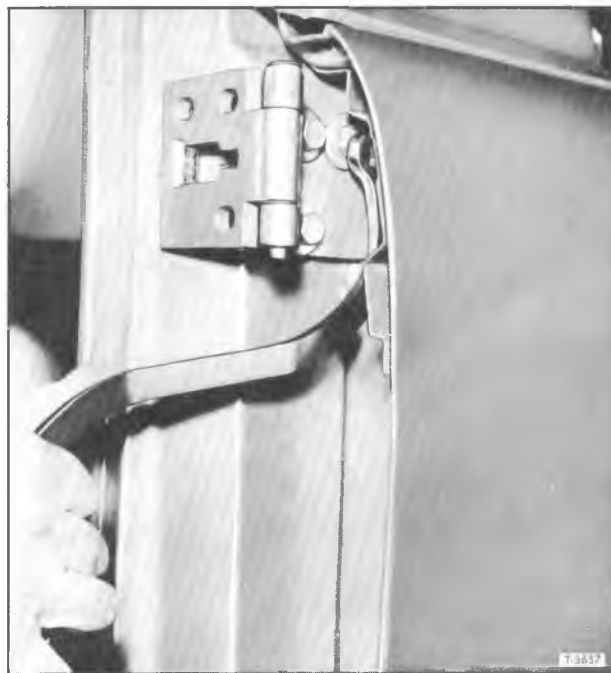

Figure 15—Door Hinge Bolt Wrench J-22585 (Typical)
Door adjustment may be accomplished at two places; at the hinge straps-to-door panel and at the hinge cage-to-pillar. Before adjustment is made on any door, however, the striker plate should be removed. The door can be moved fore, aft, up and down at the hinge pillar and the door also can be moved in or out at the hinge-to-door panel. However, in order to adjust the door assembly at the body hinge pillar it is necessary to use special door hinge bolt wrench Tool (J-22585) (fig. 15). Move door as required and tighten bolts.
4. With special Tool (J-22585) remove three bolts securing front door upper hinge to cowl pillar. Refer to figure 15.